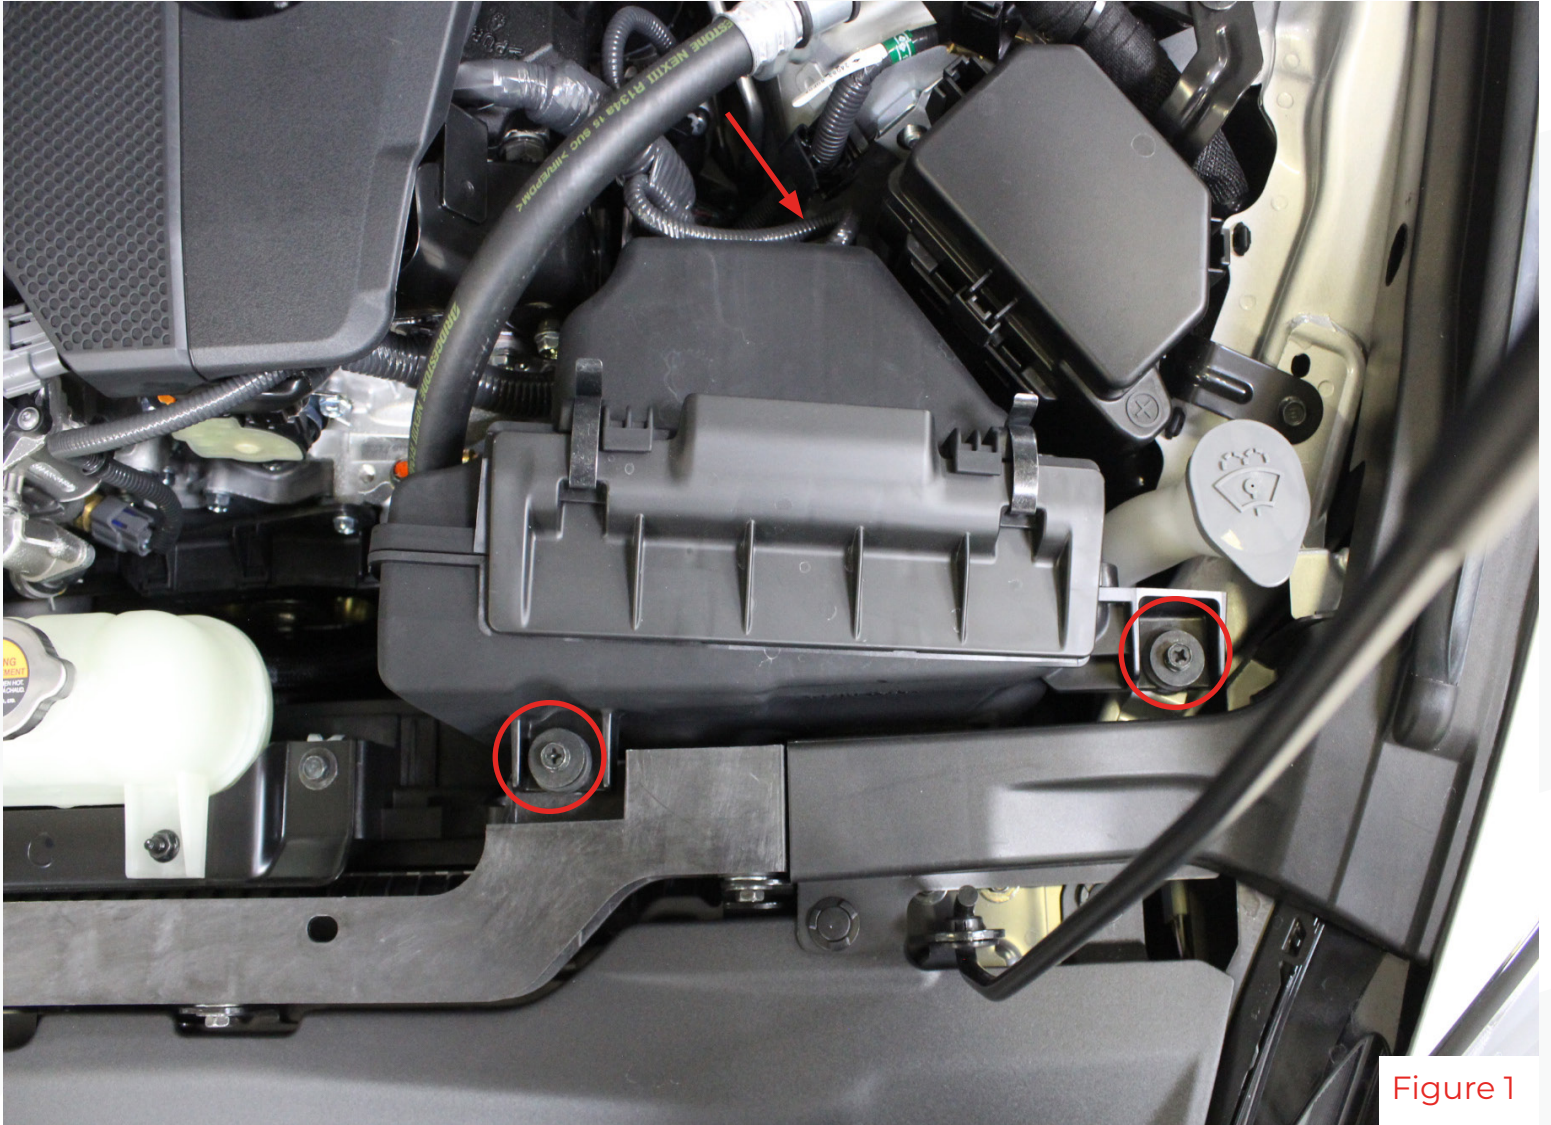

Figure 1
1. On the drivers side, release the harness clip from the air box and remove the two bolts (fig 1)